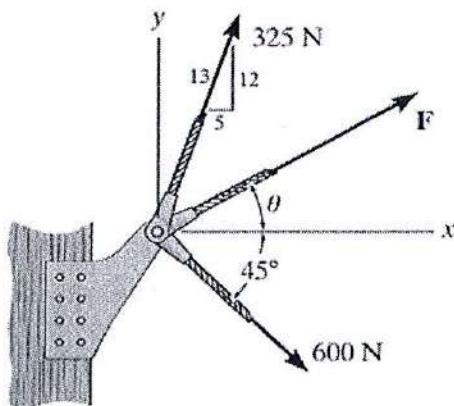

Figure 3b/ Rajah 3b
- b) If the resultant force acting on the bracket in **Figure 3b** to be 750N directed along the positive x-axis, determine the magnitude of F and its direction θ .